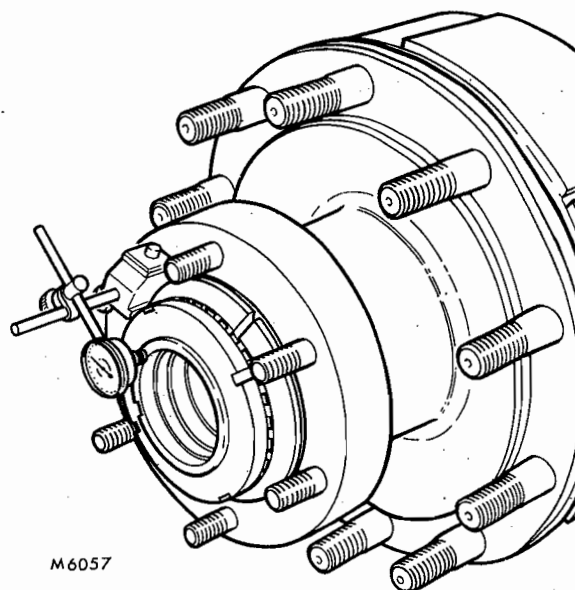

FIG. 10 CHECKING HUB BEARING END FLOAT
7. Fit washer (18), locknuts (15 and 17) and lockwasher (16).
8. Mount a dial gauge as shown in Fig. 10; rock hub and adjust the inner locknut until the required end-float is recorded on gauge, see Data.